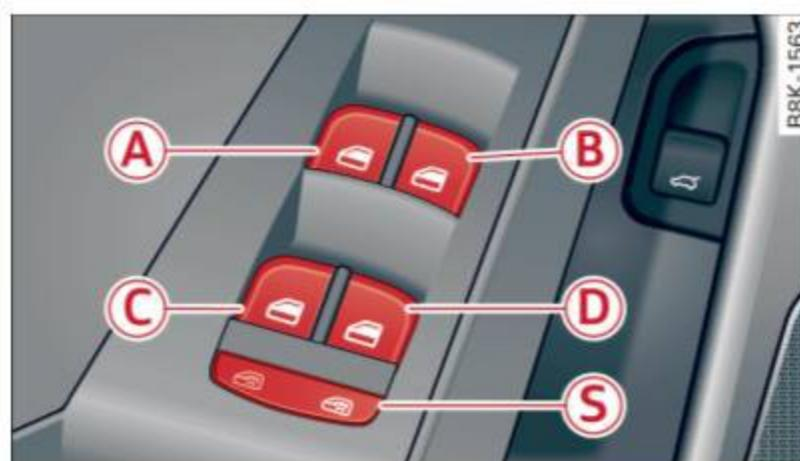

Fig. 35 Section of the driver's door: controls
When the safety button (S) is pressed ⇒ *fig. 35*, the  symbol in the button lights up. The power window switches in the rear doors are switched off.